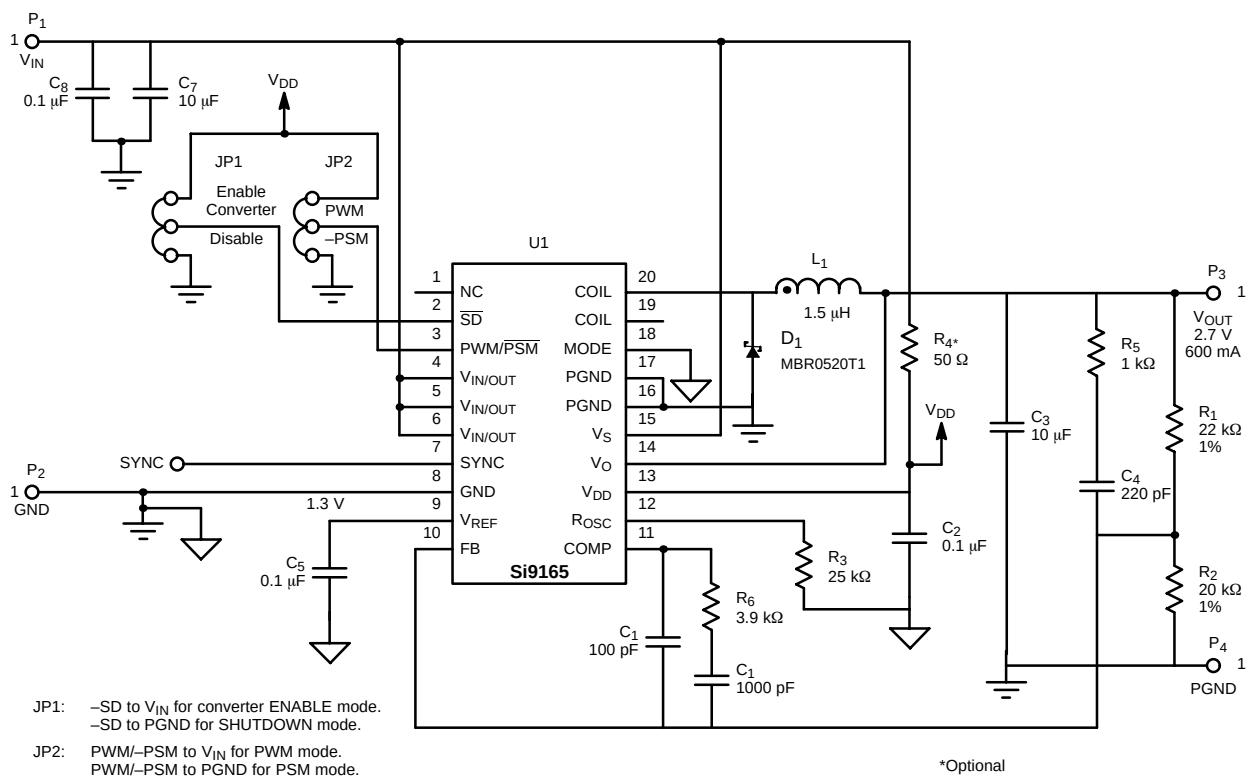
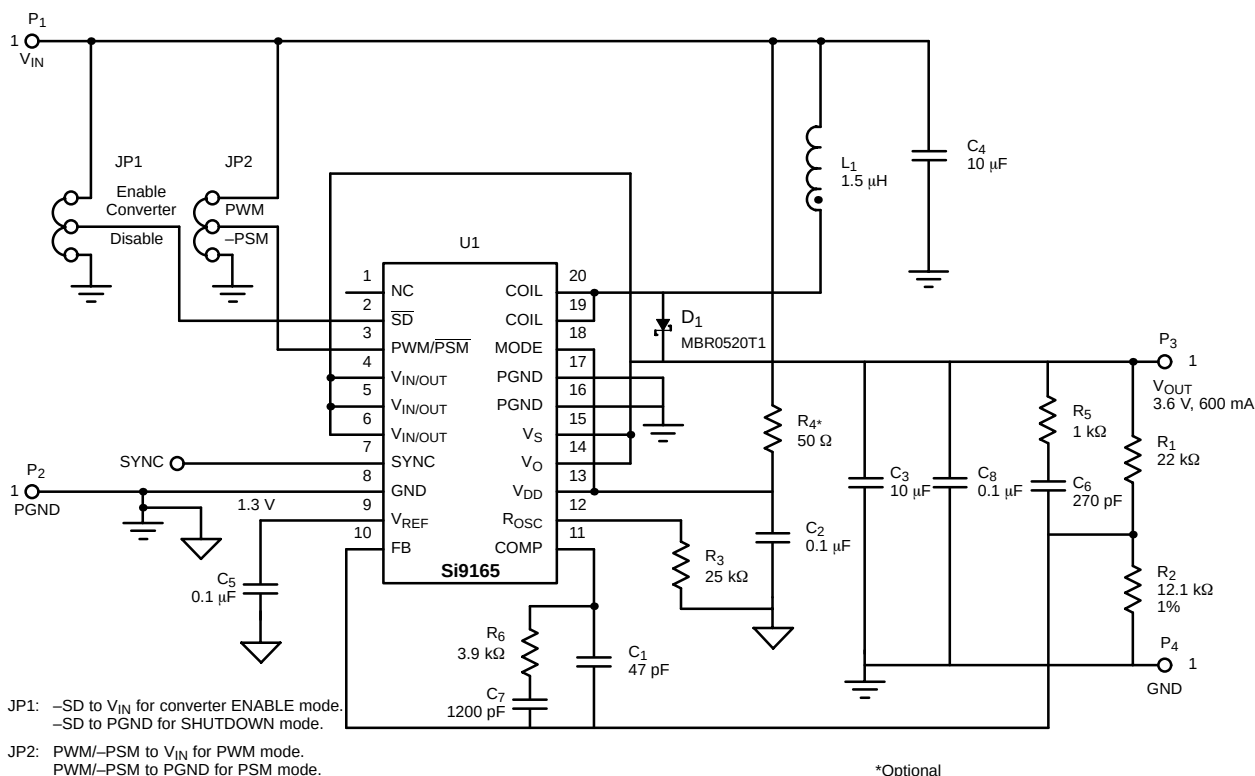
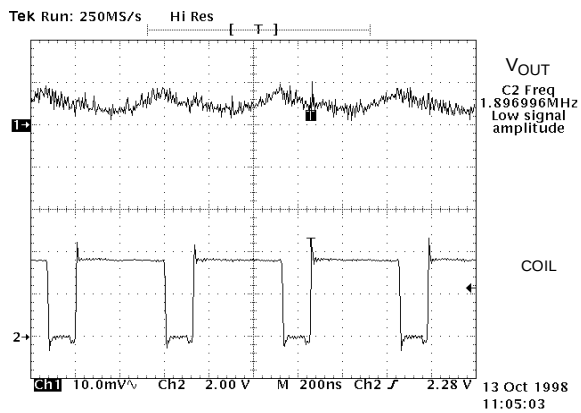
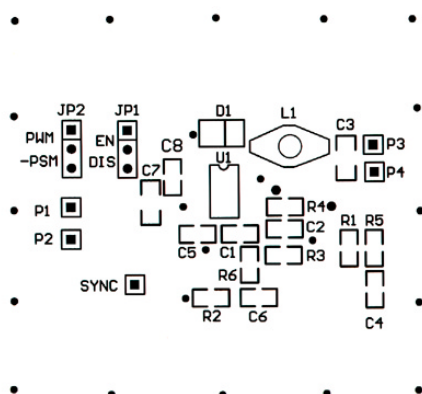

FIGURE 1. Schematics of Si9165 Buck
FIGURE 2. Schematics of Si9165 Boost
FIGURE 3. Buck DB PWM Mode: $V_{IN} = 3.6\text{ V}$, $V_{OUT} = 2.7\text{ V}$, Load = 200 mA
FIGURE 7. Buck—Top Silk Screen
There are two different version of demo boards (DB), buck and boost converters, because the Si9165 can be easily configured to buck or boost modes. The demo board has been configured to generate 2.7-V regulated output for buck DB while for boost DB is 3.6 V. The output voltage set point can be easily adjusted by changing the value of R_2 (See Figure 1) using the formula
Included in this document are schematics (Figure 1 and Figure 2), demo board sample waveform (Figure 3 through 6), PCB layout (Figure 7 through 12), and Bill Of Material (Table 1 and 2).
4. Put an oscilloscope ground on the input ground, and the Ch1 probe on the output and connect Ch2 probe on pin 20 of Si9165 (COIL pin). The waveform for buck and boost DB should appear approximately as shown in Figure 3 and 4, respectively.
CHANNEL LINEUP FOR FIGURES 3 THROUGH 6